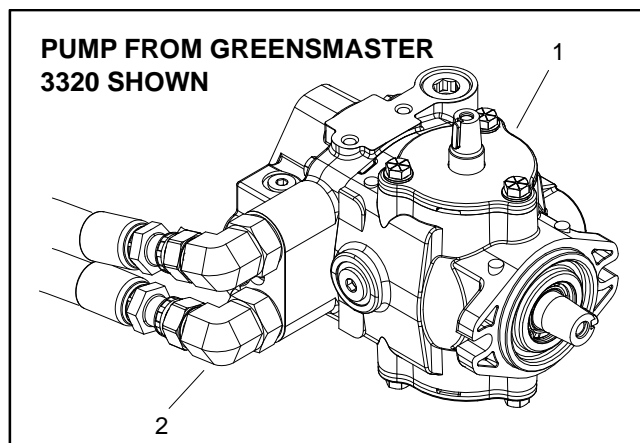

Figure 32
3. Thoroughly clean junction of hydraulic hose and **lower** fitting on side of piston pump (Fig. 32). Disconnect hose from lower pump fitting.